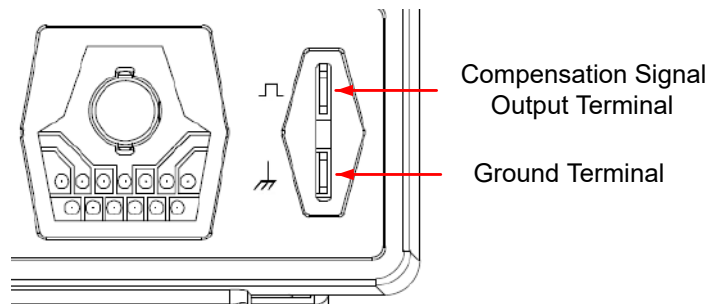

Figure 4.9 Using the Compensation Signal
2. Connect the ground alligator clip of the probe to the "Ground Terminal" as shown in *Figure 4.9*.
3. Use the probe to connect the input terminal of CH1 and the "Compensation Signal Output Terminal" of the probe, as shown in *Figure 4.9*.